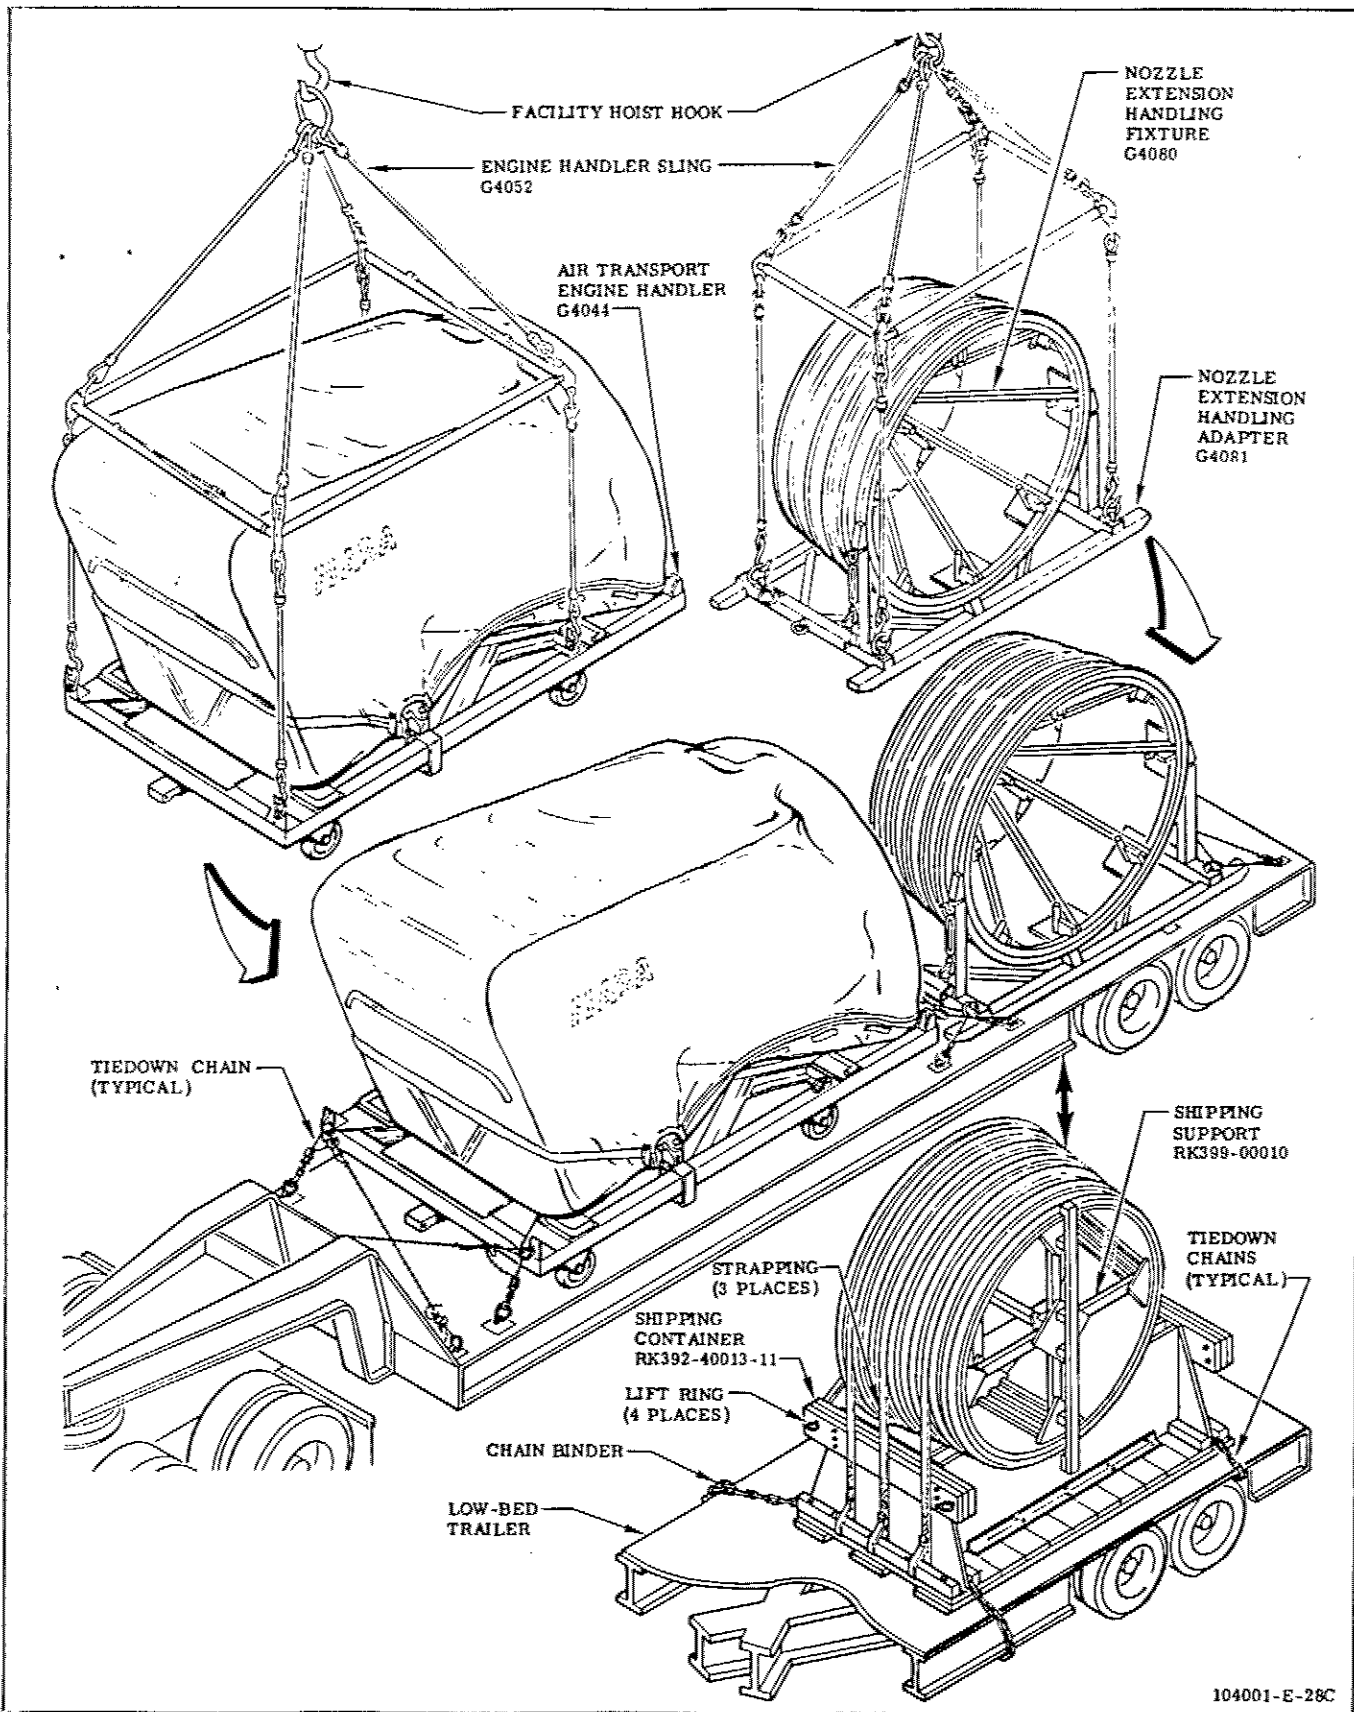

Figure 3-1. Loading Engine and Nozzle Extension on Low-Bed Trailer
## 3-3. LOADING ENGINE ON LOW-BED TRAILER. (See figure 3-1.)
#### 3-4. LOADING NOZZLE EXTENSION ON LOW-BED TRAILER. (See figure 3-1.)
e. Secure assembly to trailer bed as shown in figure 3-1.